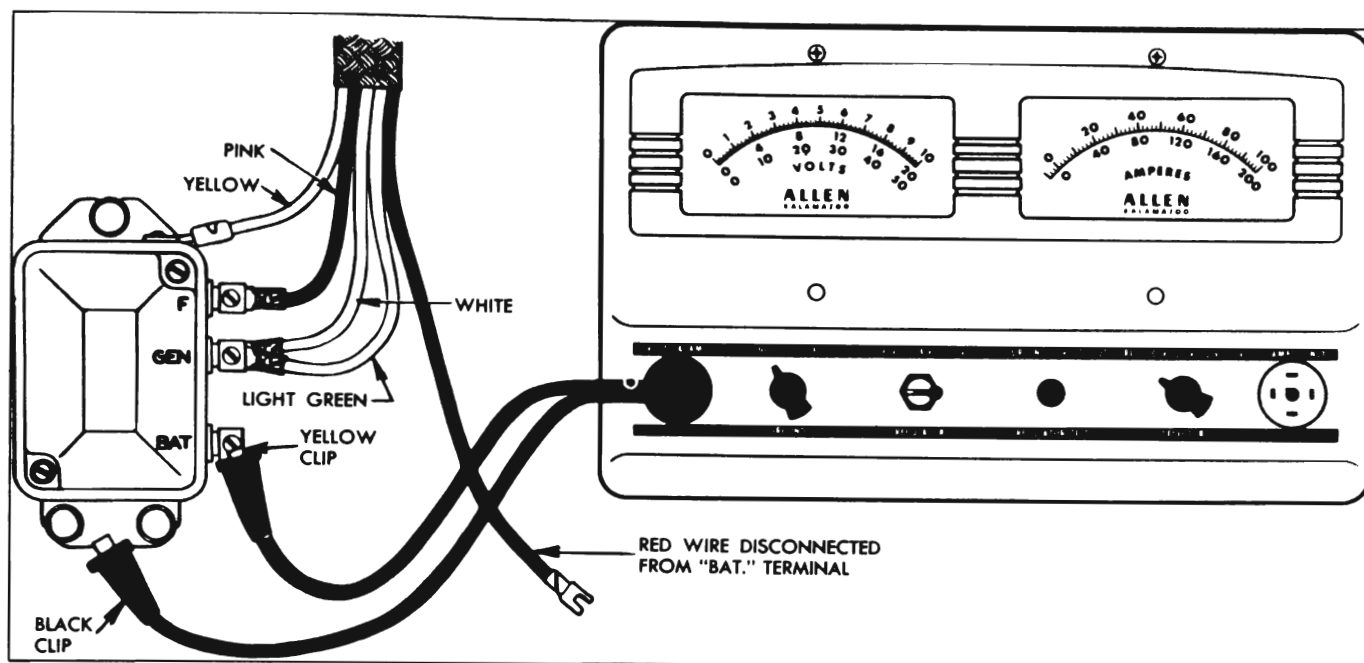

Figure 10-19—Current Regulator Test Connections—Allen Tester
16. Remove the  $\frac{1}{4}$  ohm resistor. **CAUTION:** Do not allow the disconnected battery (red) wire to touch ground on car. Turn the "SELECTOR" switch to the "REG" position. See figure 10-19.